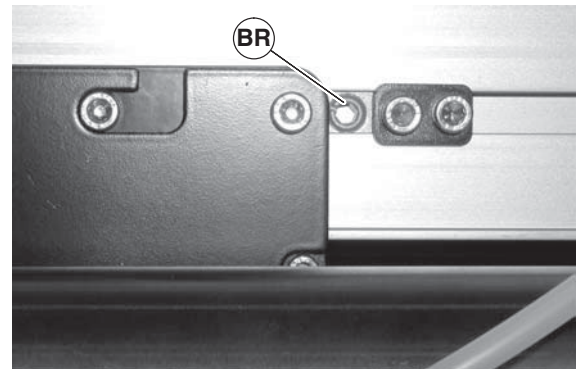

Figure 43
3. Rotate the tracking cam (Figure 43, item BR) in small increments, each time inspecting the belt as it exits the center drive. Continue to rotate the tracking cam until conveyor belt is tracking normally.